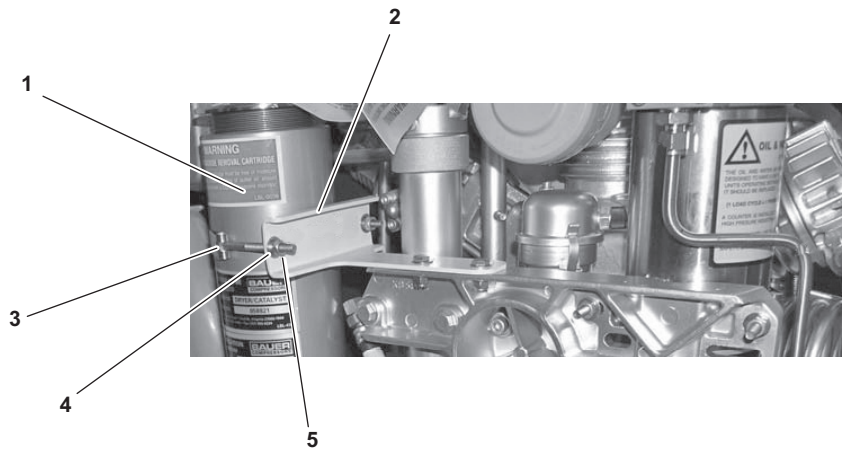

Figure 6-23. Brace Bolt in Place with Washer and Nut
- (1) If not previously installed, install the P1 purification chamber bleed valve and CO/H₂O indicator housing IAW procedures in paragraph 6.4.9.c and 6.4.10.c.
- (2) If not previously installed, install the P1 purification chamber check valve IAW procedures in paragraph 6.4.8.c.
- (3) Set the P1 purification chamber (figure 6-23, item 1) in place against the filter mount (figure 6-23, item 2) and thread the brace bolt (figure 6-23, item 3) through the hole in the filter mount. Install the washer (figure 6-23, item 4) and the nut (figure 6-23, item 5) onto the bolt but do not fully tighten.
- (7) Using a 7/16 inch wrench, tighten the nut (figure 6-23, item 5) on the brace bolt (figure 6-23, item 3), turning CW until snug.